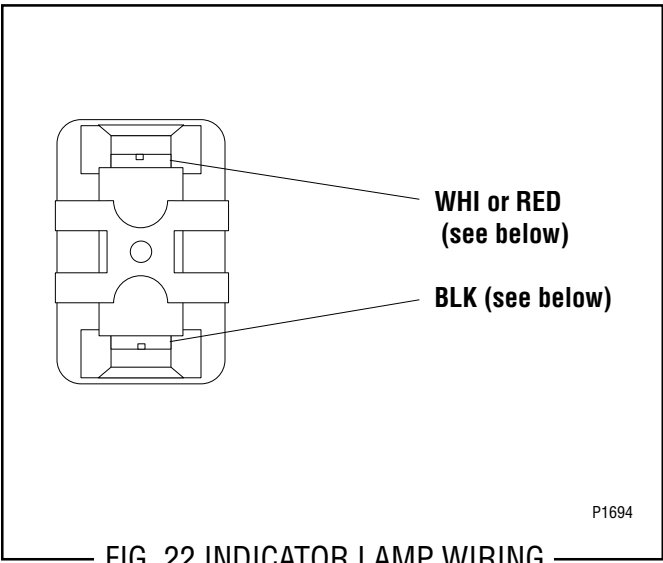

FIG. 22 INDICATOR LAMP WIRING
3. Refer to FIG. 22 when reconnecting the wires.